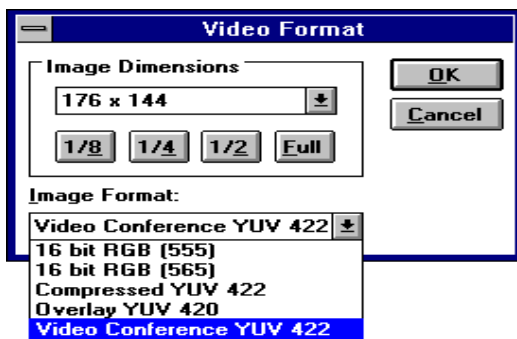

Figure 3-20.
2. **SELECT** different Image Formats by clicking on one of choices under Image format selections (see Figure 3-20). While all five formats allow image dimensions of up to full screen size, only “Video Conference YUV 422” image format allows full screen size of 704x576.